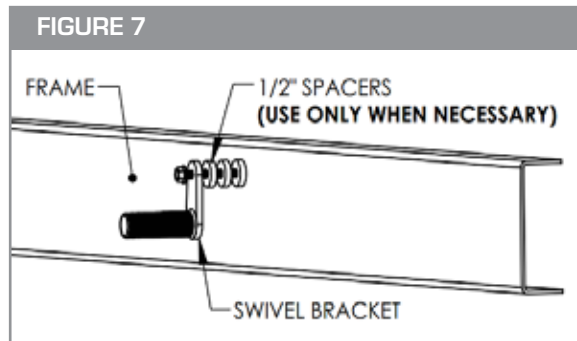

FIGURE 8
- Once the brackets are in position with the fender, tighten the 5/8" x 4-1/2" bolt that goes through the (10001472/10001473) swivel bracket to attach the swivel securely to the frame. **(See Figure 8)**